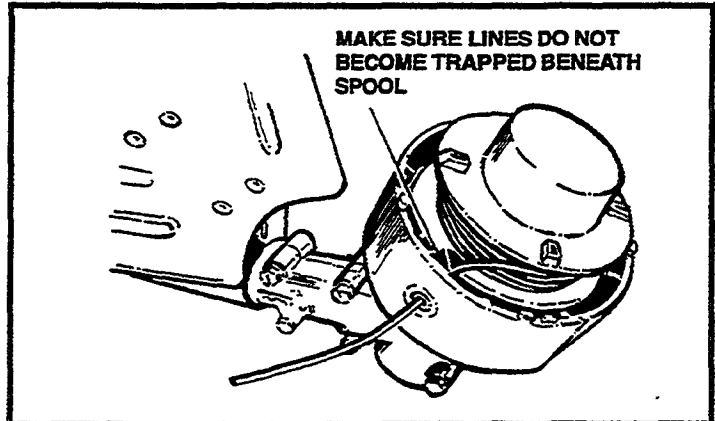

Figure 20
- **Note:** Be certain that lines do not become trapped under the spool (Figure 20).
- Re-install rotary head cap by aligning locking tabs with their notches and pushing cap down until both locking tabs are securely locked (Figure 20).